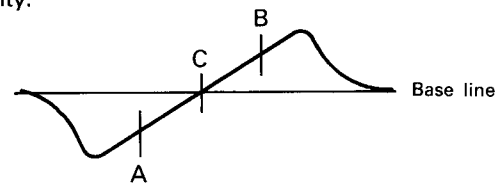

Fig. 14
5. Use the T201 core to form the S-curve shown in Fig. 14. Adjust the symmetry of A and B about point C for linearity.